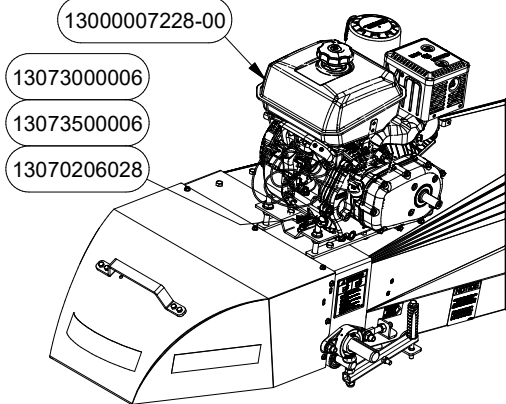

FIGURE 18
18. Install gas engine PN# 7228 onto motor mount and fasten with bolts PN# 13070206028, washers PN# 13073500006 and nuts PN# 13073000006. Hardware is found in gas motor bolt bag PN# 7345, gas engine is shipped on its own. See Figure 18.